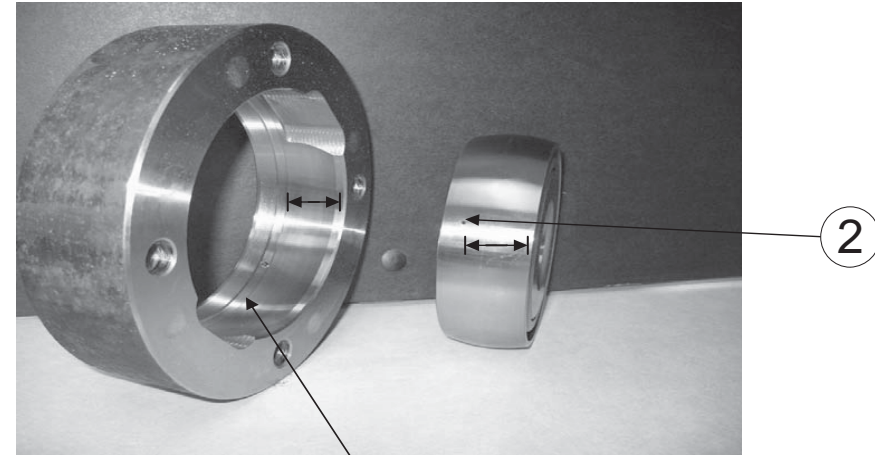

Figure 1
1. Thoroughly clean grease groove in bearing housing (1 Figure 1)
2. Properly align grease port on bearing with grease groove in bearing housing (2 Figure 1) and install bearing in bearing housing.